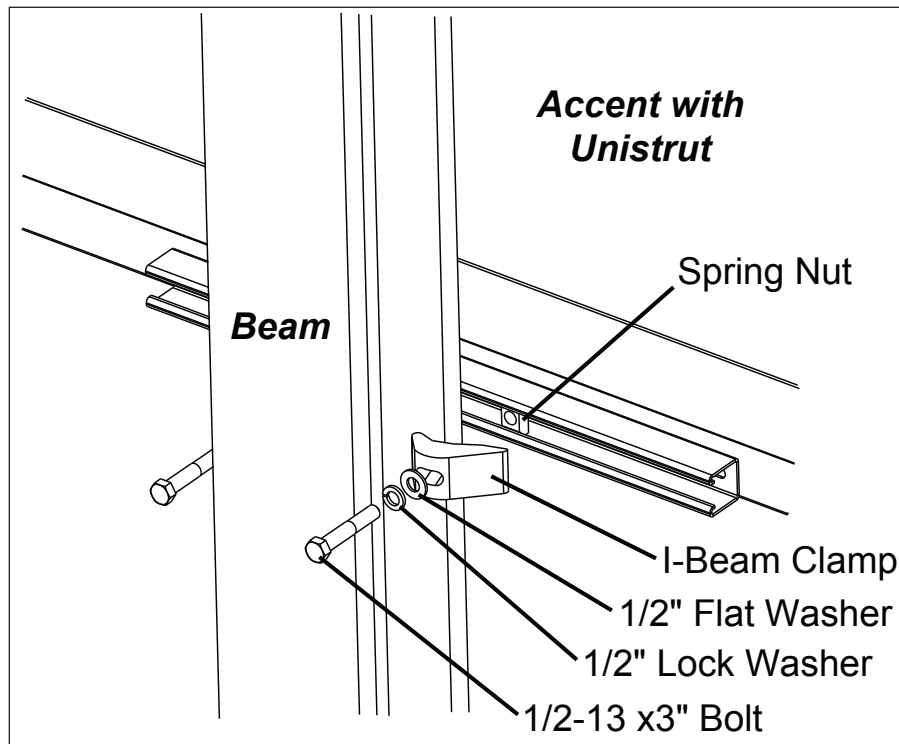

Figure 6: Accent Mounting with I-beam Clamps, Rear Isometric View
7. Make final adjustments in the positioning of the accent to ensure it is flush and level, and firmly tighten all of the bolts (**Figure 6**).